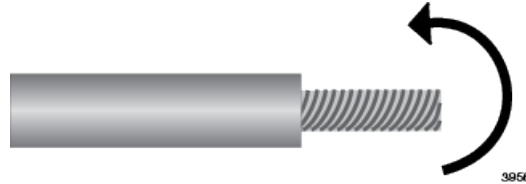

Figure 50. Wrapping the Wire Strands
2. Tightly wrap the wire strands with your finger tips. Refer to Figure 50 on page 104.